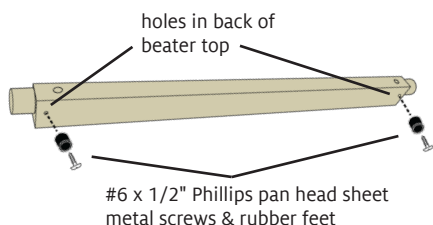

FIGURE 15: ATTACH BEATER BUMPERS
30. Attach beater bumpers: The beater top has a front and a back, with holes on the back for the bumper screws (Figure 15). Using two #6 x 1/2" Phillips pan head sheet metal screws, attach two rubber feet to the back of the beater top.